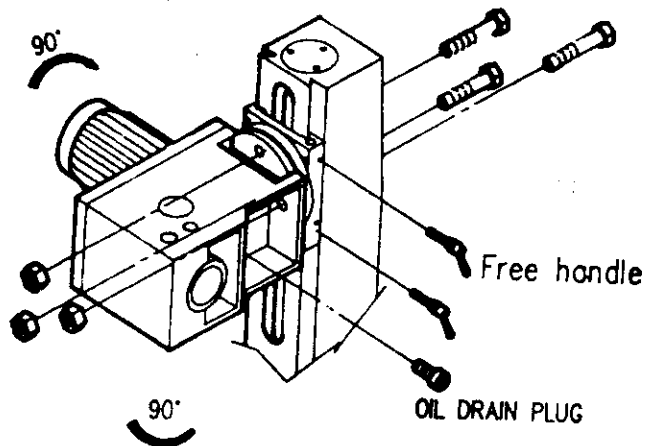

Fig. 1
Tilt the head stock over as shown in Fig. 1 Open the oil drain plug to allow the oil to drain from the opening completely. Then lock the oil drain plug and turn the head to be upright position. Remove the oil filler plug fill the oil to the gear box until the oil lever reach the middle of oil fluid lever indicator. Then lock the plug.
- (2) After Operation
(3) Adjustment of Head
- (a) To raise and lower the head, loosen the two heavy duty head free handle shown in Fig.1. Use the left side head handle to raise and lower the head on its rack and pinion mechanism. When the desired height is reached, tighten the bolts to avoid vibration.